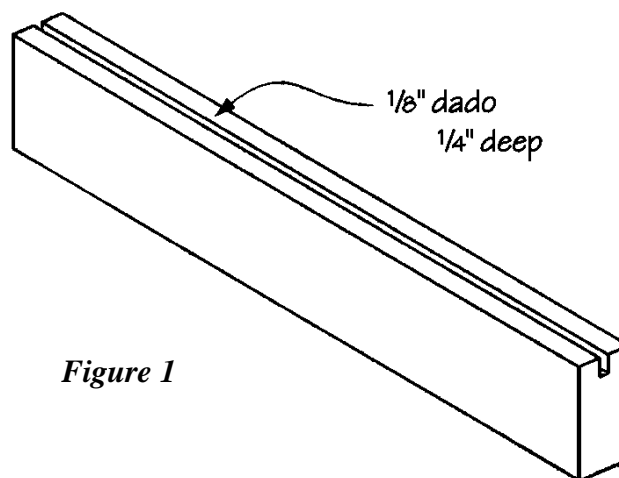
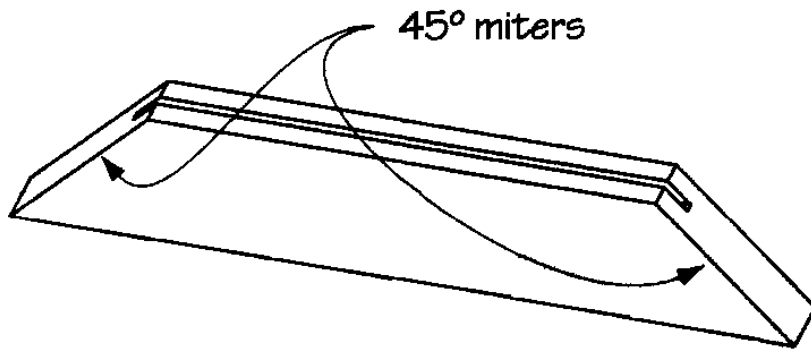

Figure 1
Figure 2
- Each of the two sides of the cabinet, and the door is a 1 x 2 frame which has been slotted in the center in the center to accommodate a piece of glass. Dado a total of 18 linear feet of 1 x 2 pine down the center of one edge the width of a saw kerf (about 1/8") and 1/4" deep, as shown in *Figure 1*. This may be done with a circular saw with a ripping fence, a table saw, or a router with a 1/8" straight cutter.
- Cut four vertical sides (A) from the dadoed 1 x 2 pine, each measuring 22 inches long.
- Miter each end of the four vertical sides (A) at opposing 45-degree angles, as shown in *Figure 2*. Make certain that the dadoed edge is on the short side of each piece.
- Cut four horizontal sides (B) from the dadoed 1 x 2 pine, each measuring 8-1/2 inches long.
- Miter each end of the four horizontal sides (B) at opposing 45-degree angles, as shown in *Figure 2*. Again, make certain that the dadoed edge is on the short side of each piece.
2. Cut two door sides (G) from the remaining dadoed 1 x 2 pine, each measuring 21-7/8" long.
3. Miter each end of both door sides (G) at opposing 45-degree angles, as shown in *Figure 2*. Make certain that the dadoed edge is on the short side of each piece.
4. Cut two door top/bottoms (H) from the dadoed 1 x 2 pine, each measuring 17-7/8" long.
5. Miter each end of both door top/bottoms (H) at opposing 45-degree angles, as shown in *Figure 2*. Again, make certain that the dadoed edge is on the narrow side of each piece.